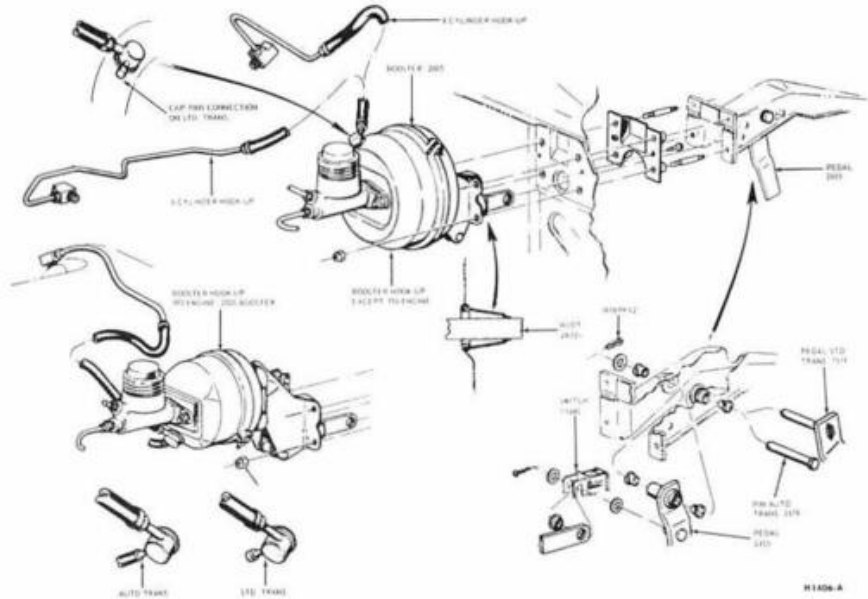

FIG. 25—Vacuum Booster Installation—Comet-Fairlane-Falcon
2. Remove the hairpin type retainer. Slide the stop light switch off the brake pedal pin **just far enough** for the switch outer hole to clear the pin, and then lower the switch away from the pin. Slide the master cylinder push rod link and the nylon washers and bushing off from the brake pedal pin (Fig. 25 or 26).
4. Working from inside the car, install the inner nylon washer, the master cylinder push rod link, and the bushing on the brake pedal pin. Position the switch so that it straddles the push rod with the switch slot on the pedal pin and the switch outer hole just clearing the pin. Slide the switch completely onto the pin, and install the outer nylon washer as shown in Fig. 25 or 26. Secure these